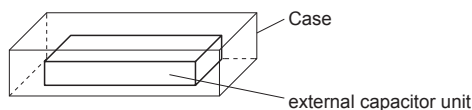

Fig.3.2 Installation example
■ There is a possibility that it is not possible to cool enough when the external capacitor unit is used by the sealing up space as showing in Figure 3.2.